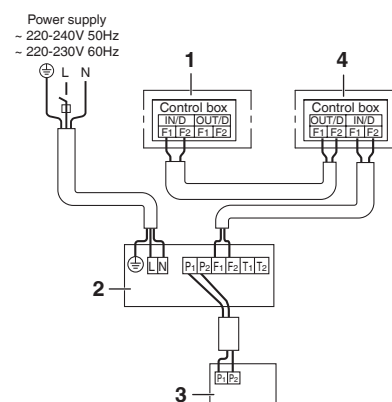

Fig. 29
- (3) When including BS unit (See Fig. 29).